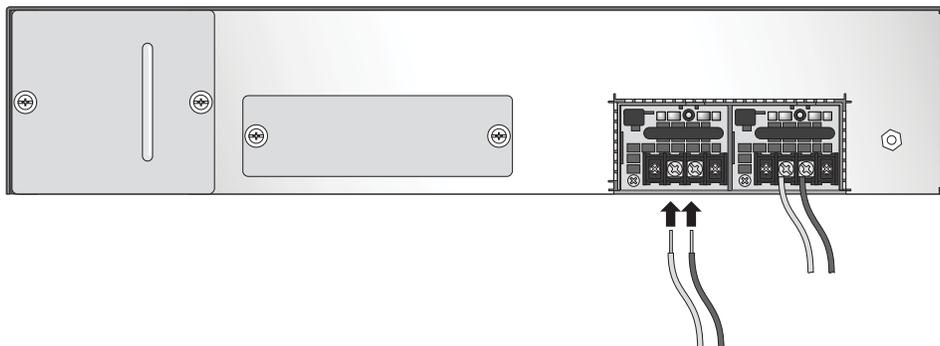

Figure 11. DC Power Supply - Wire Removal and Attachment
1. While the PA-5000 Series is running, loosen the screws that secure the power wires and remove the wires from the power supply that you need to replace, as shown in Figure 11.